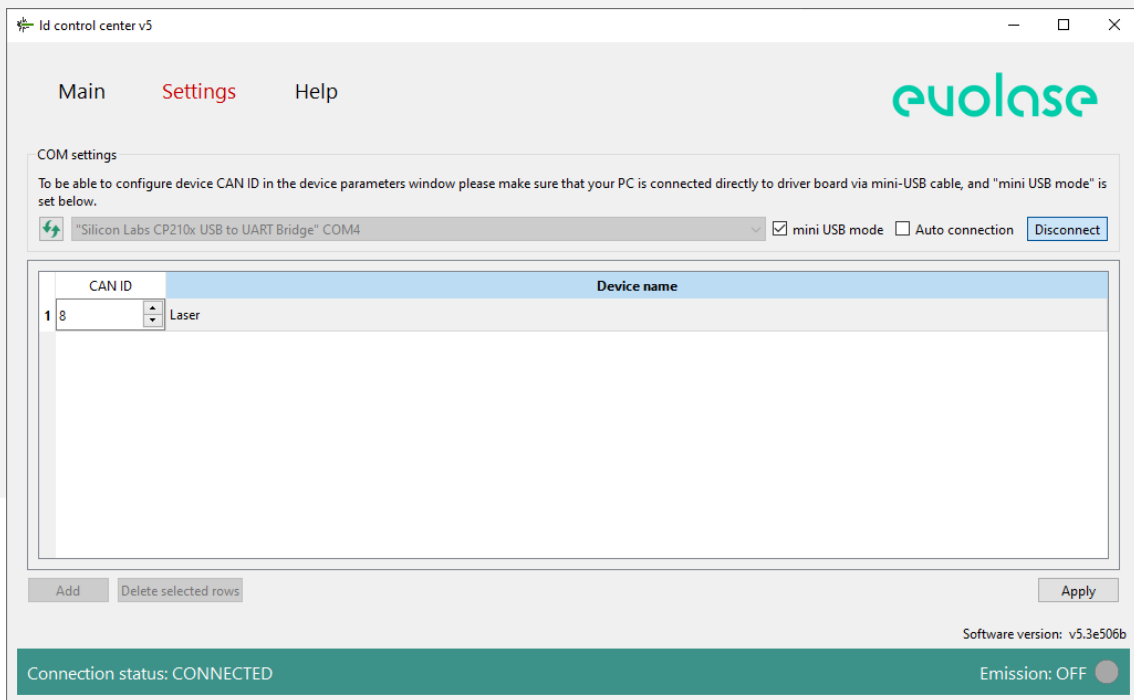

Figure 1: The system configuration menu
5. Click "Settings" to enter the program configuration menu (fig.1).
The system configuration window (fig. 1) is accessed by pressing “Settings” in the navigation bar. In this window the user can set the number of channels, CAN network ID and the names for the connected drivers.